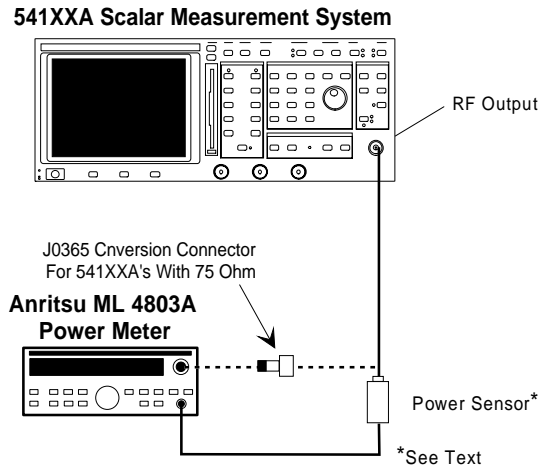

Figure 6-22. Equipment Setup for ALC Pre-Adjustment Procedure
- Step 41.** Connect the power meter to the RF Output connector, as shown in Figure 6-22 (page 6-64).